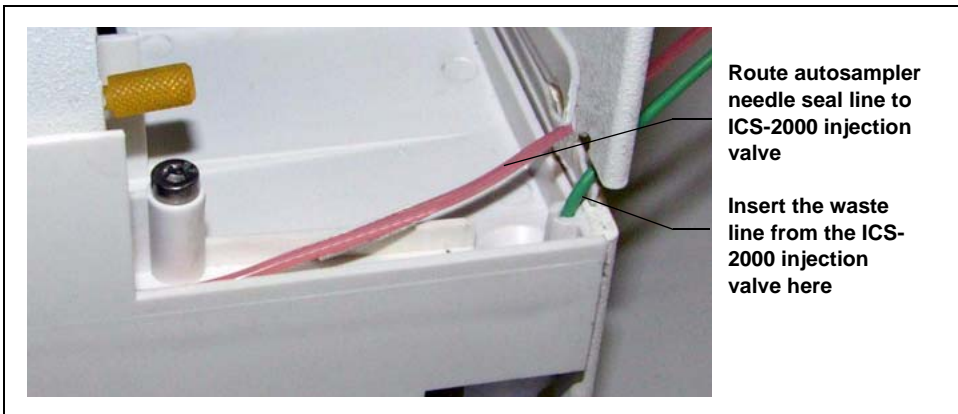

Figure B-104. Autosampler Drip Tray
3. The needle seal line that extends from the inject port in the autosampler is coiled inside the autosampler door, on the right side. Route this line through the autosampler right side slot (see Figure B-104) and the ICS-2000 left side slot to the ICS-2000 injection valve.
6. Push the end of the green **AS/AS50 TRAY** line into the small round opening on the right side of the AS or AS50 (USB) tray (see Figure B-104).